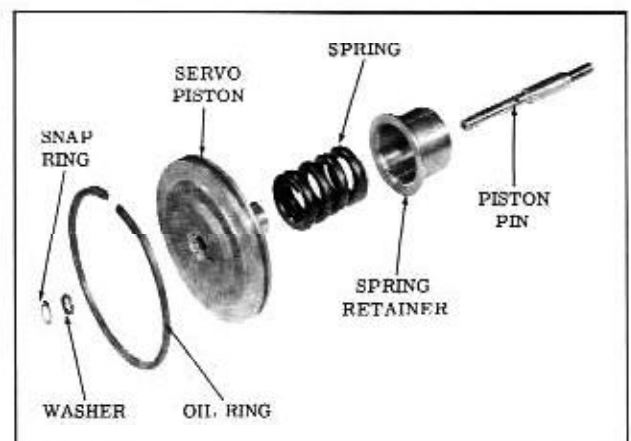

Fig. 3-76 Servo Piston Assembly
4. Inspect servo piston oil ring and replace if necessary. (Fig. 3-76)